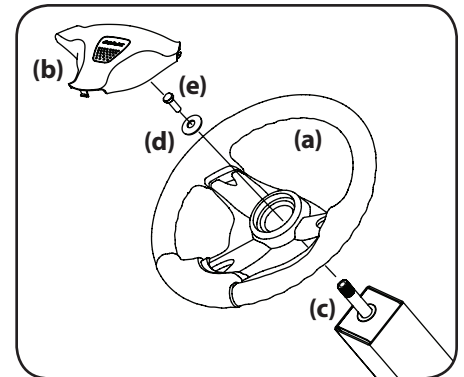

Figure 2-3
1. Remove the hardware for attaching the steering wheel (a) from beneath the steering wheel cover (b). Carefully pry off the steering wheel cover (b) to remove the hardware. See Figure 2-3.
2. With the wheels of the tractor pointing straight forward, place the steering wheel (a) over the steering shaft (c). See Figure 2-3.
3. Place the bellville washer (d) over the steering wheel (a) and secure with the hex screw (e). See Figure 2-3.
4. Place the steering wheel cover (b) over the center of the steering wheel (a) and push downward until it "clicks" into place. See Figure 2-3.